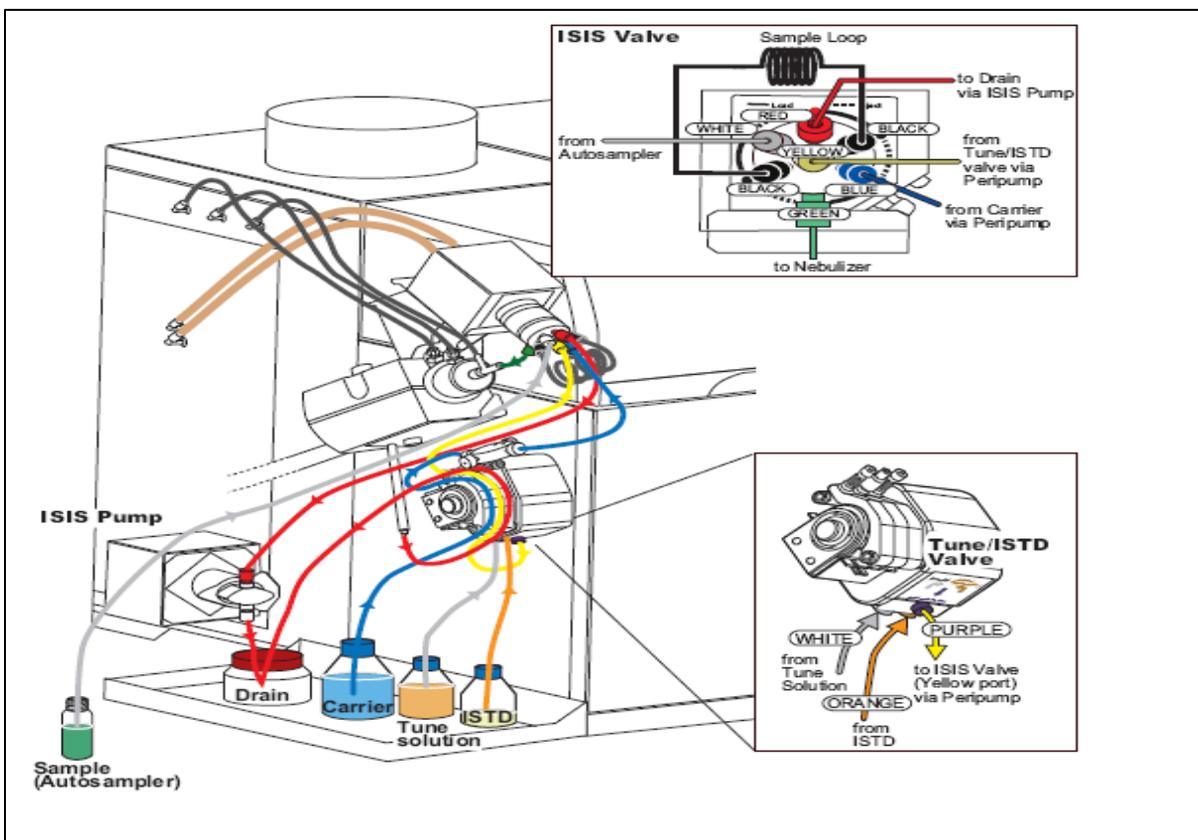

Figure 1
1. The ISIS-3 system operates by having the carrier solution and the ISTD or Tuning solution pumped into the nebulizer by the peristaltic pump. Figure 1 details the setup in comparison to the ICP-MS.